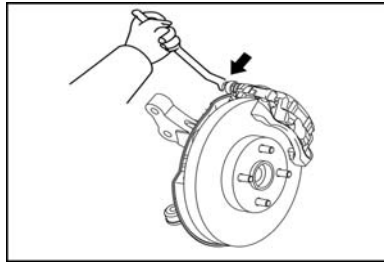

Fig. 2-62
② Dismantle the 2 bolts after securing the sliding pin of the slave cylinder of the rear disc brake. See Fig. 2-62.